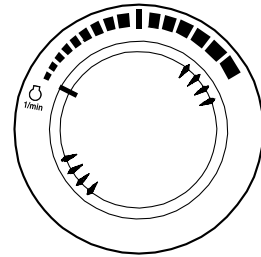

Figure 19
1. Run engine at "LOW IDLE" (no load) for five minutes (Figure 19).